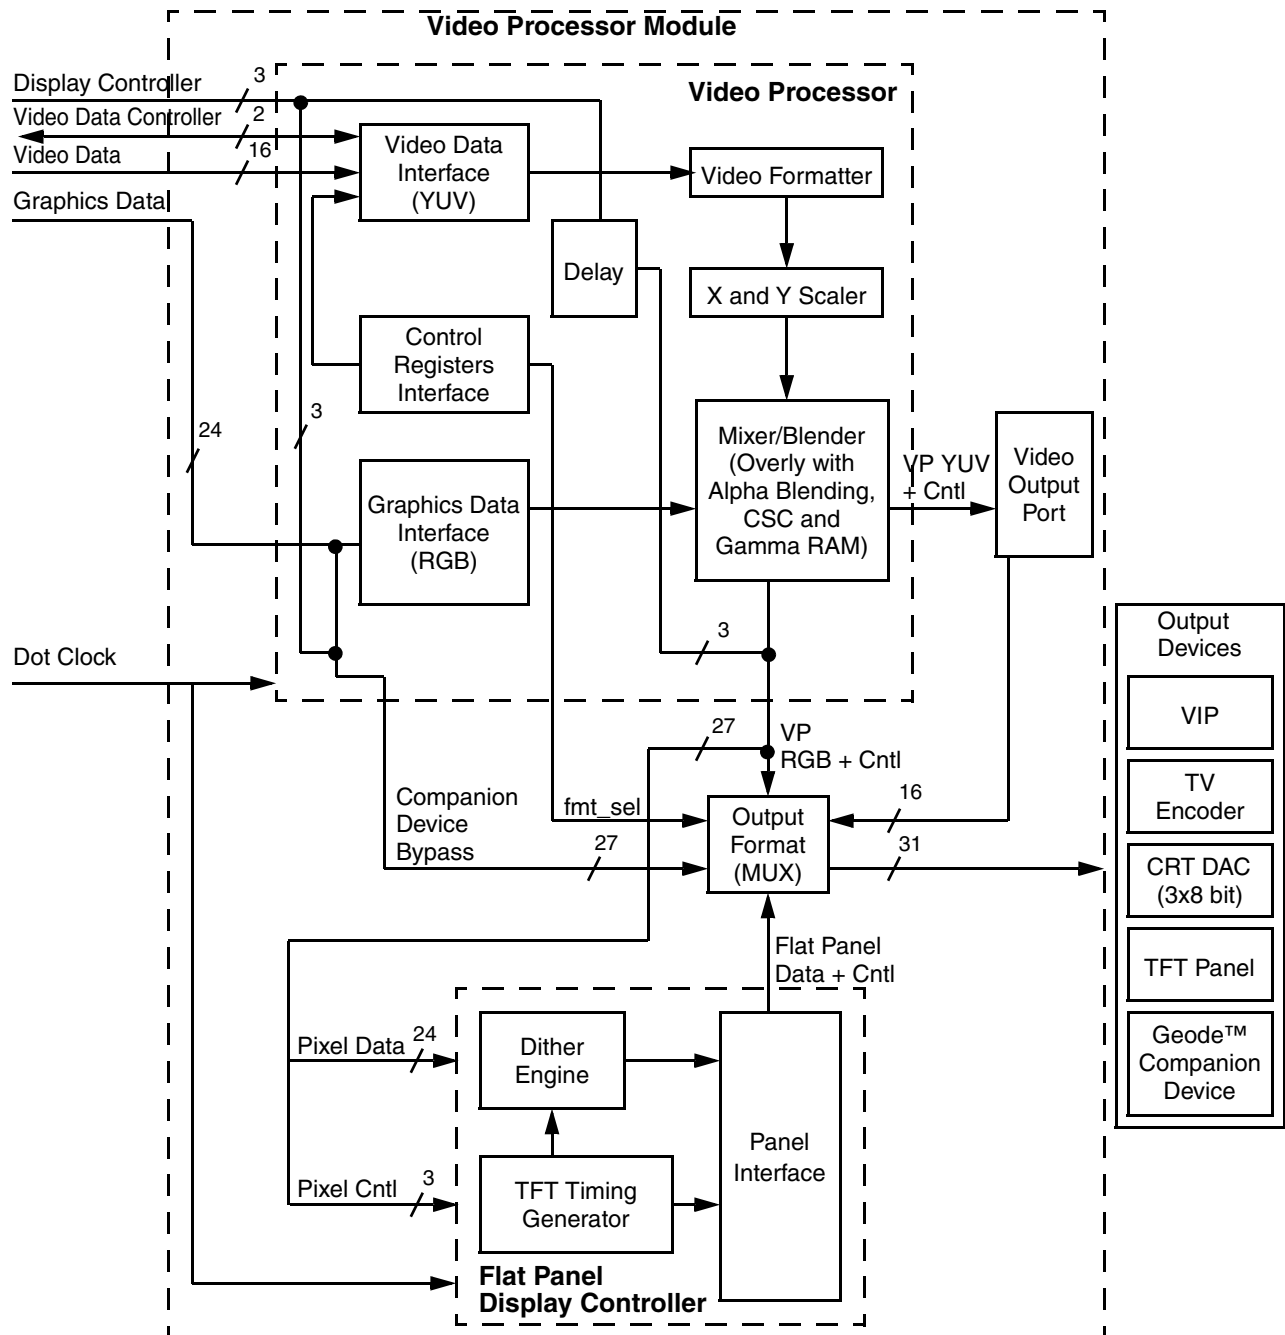

Figure 6-23. Video Processor Block Diagram
The Video Processor (VP) module provides a high-performance, low-power CRT/TFT display or video output interface. There are three main functions contained within the VP: the Video Processor, the TFT controller, and the video output port (VOP). The scaling, filtering, and color space conversion algorithms implemented in the VP are of much higher quality than those used in software-only video playback systems. The VP is capable of delivering high-resolution and true-color graphics. It can also overlay or blend a scaled true-color video image on the graphic background. For video input, integrated scaling, and X and Y interpolation, enable real-time motion video output. The video path of the VP also contains horizontal and vertical scaling hardware, and an optional YUV-to-RGB color space converter. This motion video acceleration circuitry is integrated into the Video Processor to improve video playback. By off-loading these arithmetic-intensive tasks from the processor, 30 frame-per-second playback can be easily achieved, while keeping processor utilization to acceptable performance levels. The graphics and video path is illustrated in Figure 6-23 on page 387.
The Video Processor module contains the following functional blocks. (Figure 6-23 on page 387 shows the relationships between these blocks):